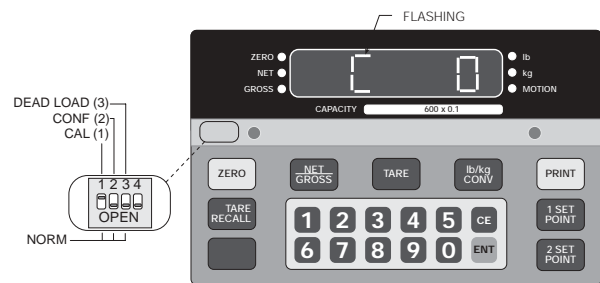

Figure 4-2. Close Switch 3 and Open Switch 1
3. Adjust dead load potentiometer to obtain a reading at or near zero (see Figure 4-2).